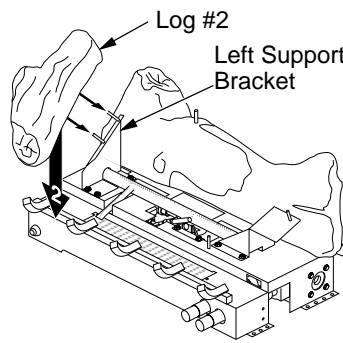

Figure 25 - Installing Left Log (#2)
- Align two pegs in left support bracket with holes in bottom of left side log (#2). Place log on pegs (see Figure 25, page 15).
- Align peg on right support bracket with hole in bottom of right side log (#3). Place log over peg and over last grate finger on right as shown in Figure 25.